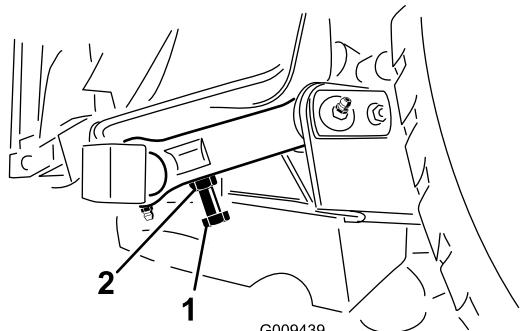

Figure 25
- To adjust distance, locate adjuster bolt on rear pivot link of cutting unit (Figure 25). Loosen jam nut on adjuster bolt. Loosen or tighten adjuster bolts until 0.38-0.62 inch (10-16 mm) clearance is attained, then tighten jam nut.